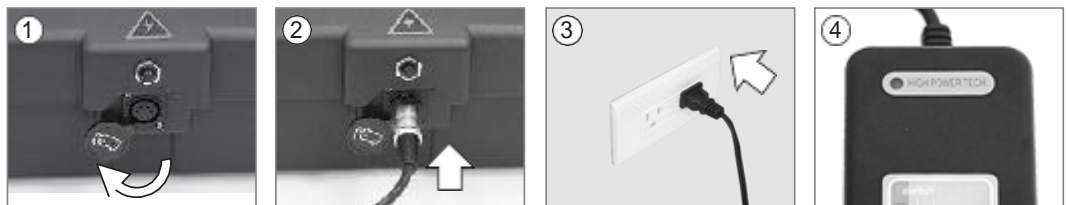

Figure 32
• Battery Box Charge Port (Figure 32)